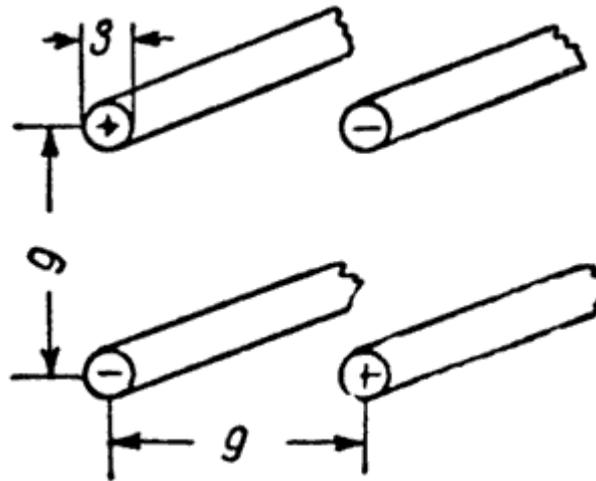

Figure 5 Design of the Four- Wire Line
**Figure 5** shows the design of the Four- Wire Line. The Four- Wire Line was placed onto insulators under the square wood stick. The Small Directional Dipole Helical The small sized Antenna at the test showed that this one worked similar to the helical antenna shown on the **Figure 1**.